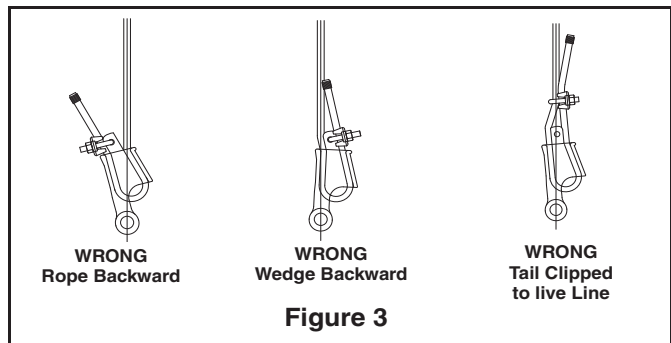

Figure 3
- Do not attach dead end to live end or install wedge backwards (See Fig. 3).